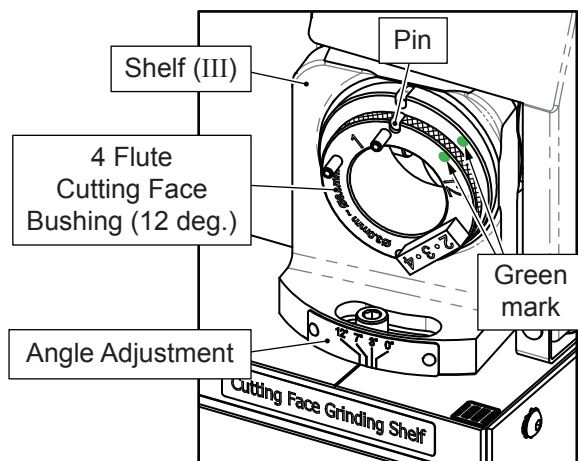

Fig. 11-3
- The diameter from $\Phi 3.0 - 8.0$ mm. (Fig. 11-3)
- ① Adjust Shelf (III) to 12° .
- ② Insert 4 Flute Cutting Face Bushing (12 deg.) to Shelf (III), align the ● Green mark of the Bushing with the ● Green mark on the shelf, then insert it to the end.